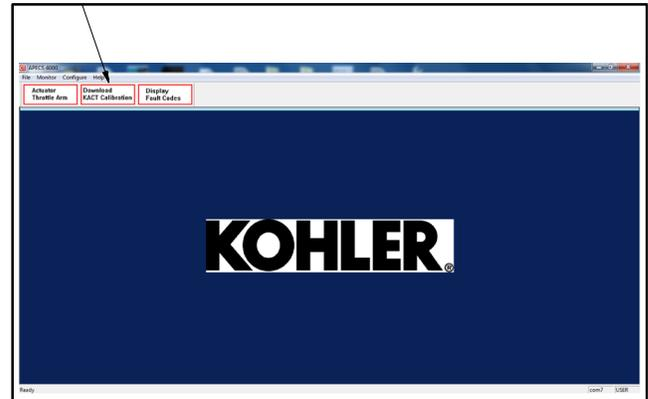

Figure 15 Main Screen
4.13 The KOHLER main screen appears. Select "Download KACT Calibration" See Figure 15.